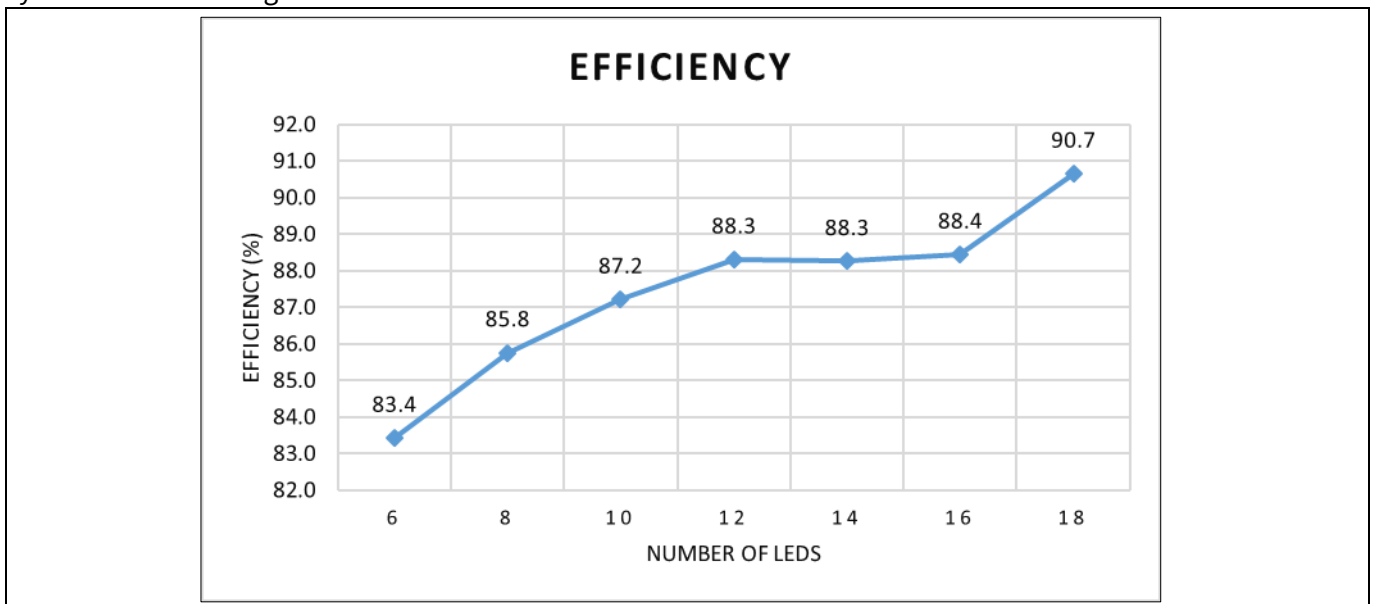

Figure 16 Efficiency of combined stages vs number of LEDs
The XDPL8218 40 W reference design is a digitally configurable front-stage High Power Factor (HPF) flyback converter with universal AC input of 90 V_{rms} to 305 V_{rms} and Secondary Side Regulated (SSR) Constant Voltage (CV) output of 54 V. The CV output cannot be directly used to drive the LEDs. For LED lighting applications, it should be converted to Constant Current (CC) output by a second-stage DC-DC switching or linear regulator. The ILD6150 reference design can be used as the second-stage DC-DC buck converter, as shown in Figure 15. The ILD6150 hysteretic buck converter then operates with a fixed input voltage of 54 V. The efficiency of such a system is shown in Figure 16.